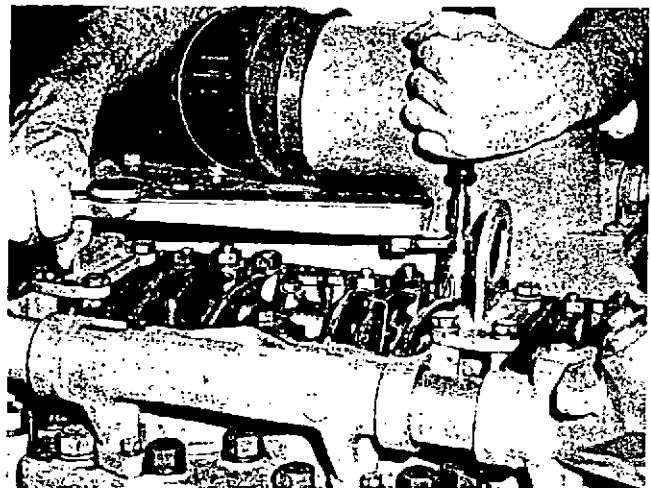

Fig. 5-37, N11942. Adjusting valves
2. Loosen locknut and back off the adjusting screw. Insert feeler gauge between rocker lever and top of the valve stem or crosshead. Turn the screw down until the lever just touches the gauge and lock the adjusting screw in this position with the locknut. Fig. 5-37. Tighten locknut to 30/40 ft lb [4.1490/5.5320 kg m] torque. When using ST-669 torque to 25/35 ft lb [3.4575/4.8405 kg m].